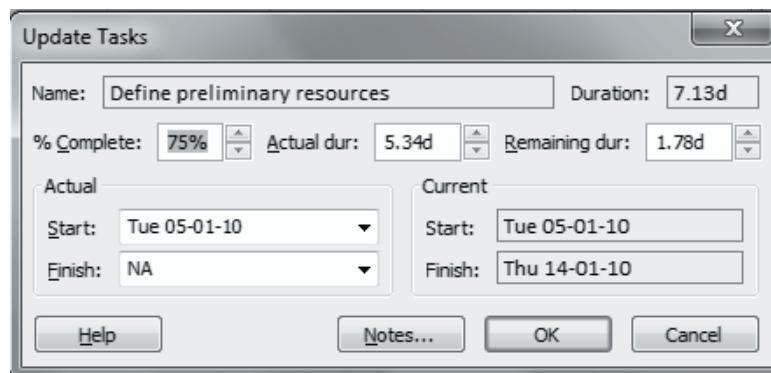

Figure 11.6: Update Tasks Dialog Box
- **Update Tasks** tool that appears on clicking the down arrow beside **Mark on Track** displays the Update Tasks dialog box. This dialog box contains tracking fields from the Task Information dialog box as well as some other fields for updating the project as shown in figure 11.6.